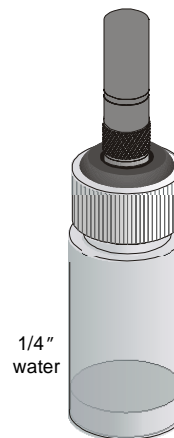

Figure 3
- c. Add water to the bottle to a depth of about 1/4 inch and screw the bottle into the cap, as shown. **Important:** Do not touch the membrane or get it wet during this step (see Figure 3).